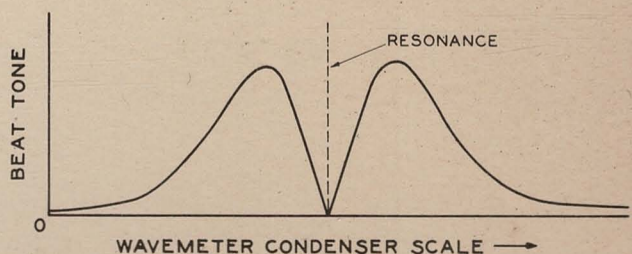

FIG. 2
(1) Absorption Method. Resonance occurs when condenser is set for maximum reading of meter on panel. If too close coupling is required to obtain a readable deflection, "pulling-in" will occur and some other method must be used. Pulling-in is evidenced by an unusually broad maximum or by a discontinuity in the meter deflection after the resonance is passed.
(2) Reaction Method. Where an oscillator has a plate or grid current meter, the reaction on this meter reading as the wavemeter is tuned to resonance may be relied on if coupling is not too close.
(3) Beat Method. This requires a heterodyne detector set to zero beat with the oscillator. As the wavemeter approaches resonance, the audible beat frequency will change as shown in Figure 2. Resonance occurs at zero beat. The beat departs rapidly from zero as the wavemeter setting is varied in either direction away from resonance.